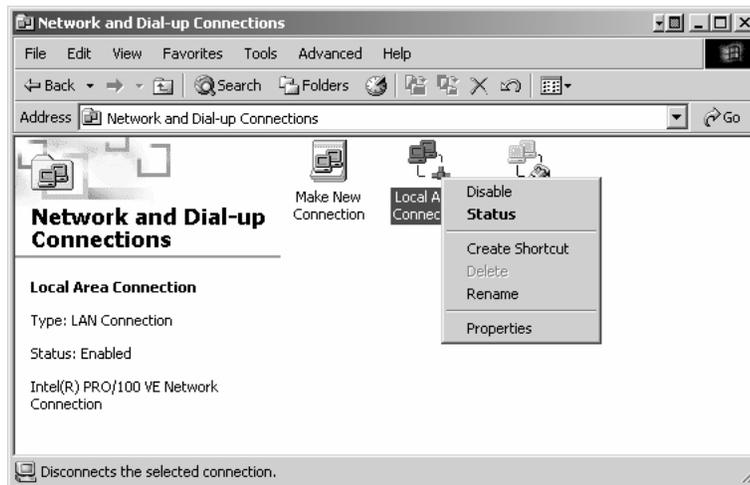

Figure 115: Network and Dial-up Connections
2. A list of network adapters appears. See Figure 115. The Local Area Connection adapter must be listed. If it is not, the network is not installed correctly.